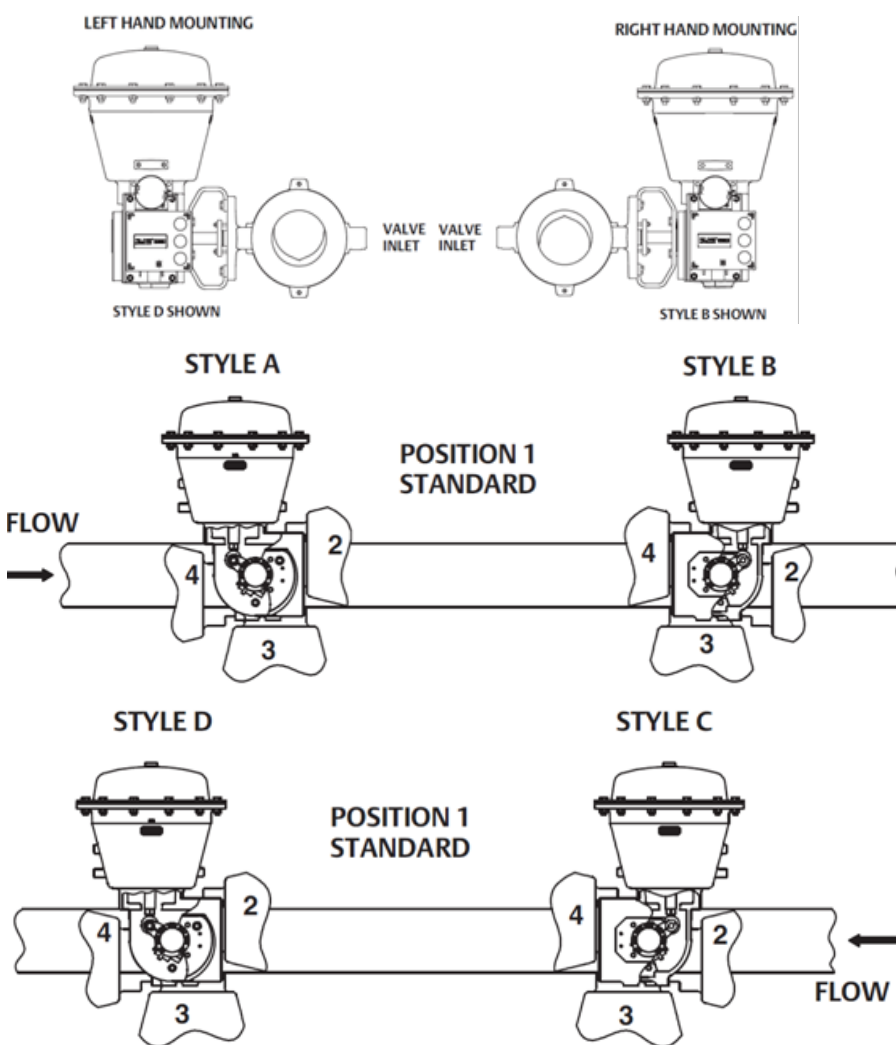

Figure 3. 2052 Actuator Mounting Options
The nested springs in the 2052 actuator do not require the bench set to be adjusted as was required with the 1052 actuator. This simplifies the actuator selection process (see Figure 3), sizing, and maintenance. For complete 2052 actuator spring data, please see the 2052 Supplemental Actuator Sizing and Stroking Speed Information PS Sheet, Catalog 14 Page D-135(A) from November of 2009.